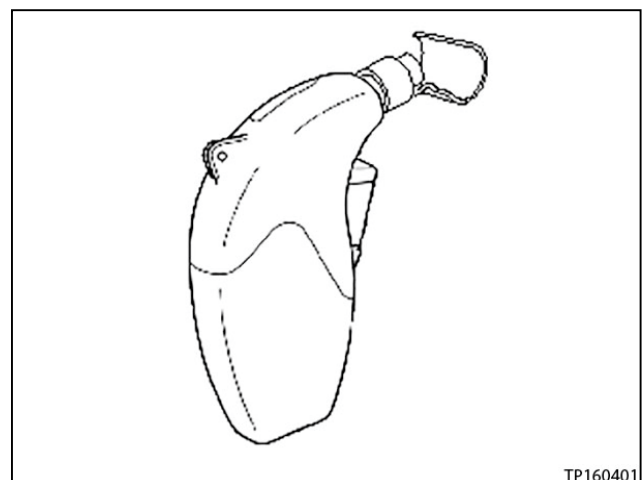
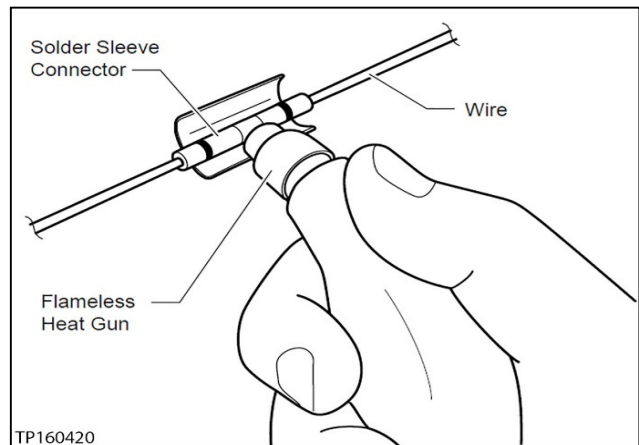

Figure 22
Figure 23
24. Install the solder sleeve connector by shrinking it to the wire with essential tool Flameless Heat Gun J-46538 or equivalent flameless heating tool (see Figure 22 and Figure 23).